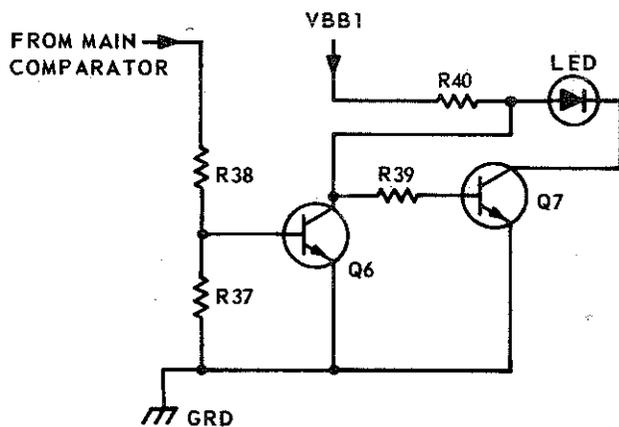

Fig. 15 – Light-Emitting Diode Control
3.41 The main comparator output is applied to the base of Q6 (Fig. 15). When the system is in the standby or transmit mode the output is insufficient to cause Q6 to conduct and the base of Q7 is maintained high. Transistor Q7 is thus "turned-on"